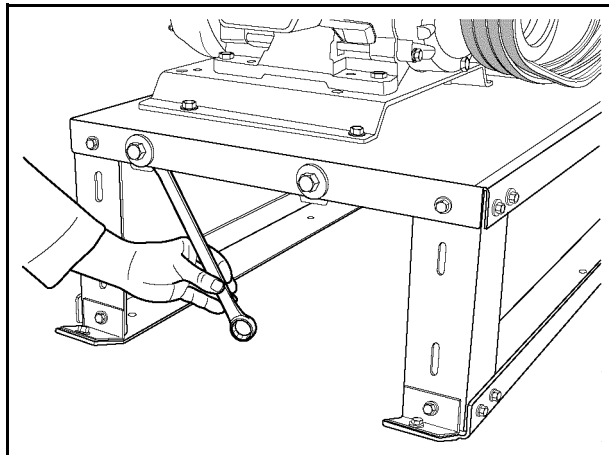

Figure 7F
6. Keeping the motor in proper alignment is necessary and can be accomplished by using an open-end wrench to turn the nut on the take-up bolt closest to the rear of the motor. This nut is located behind the flange of the blower base. Adjust if necessary. Tighten the (4) flange head bolts that secure the motor mounting plate to the blower base. Re-Install Drive Shield. (See Figure 7F)